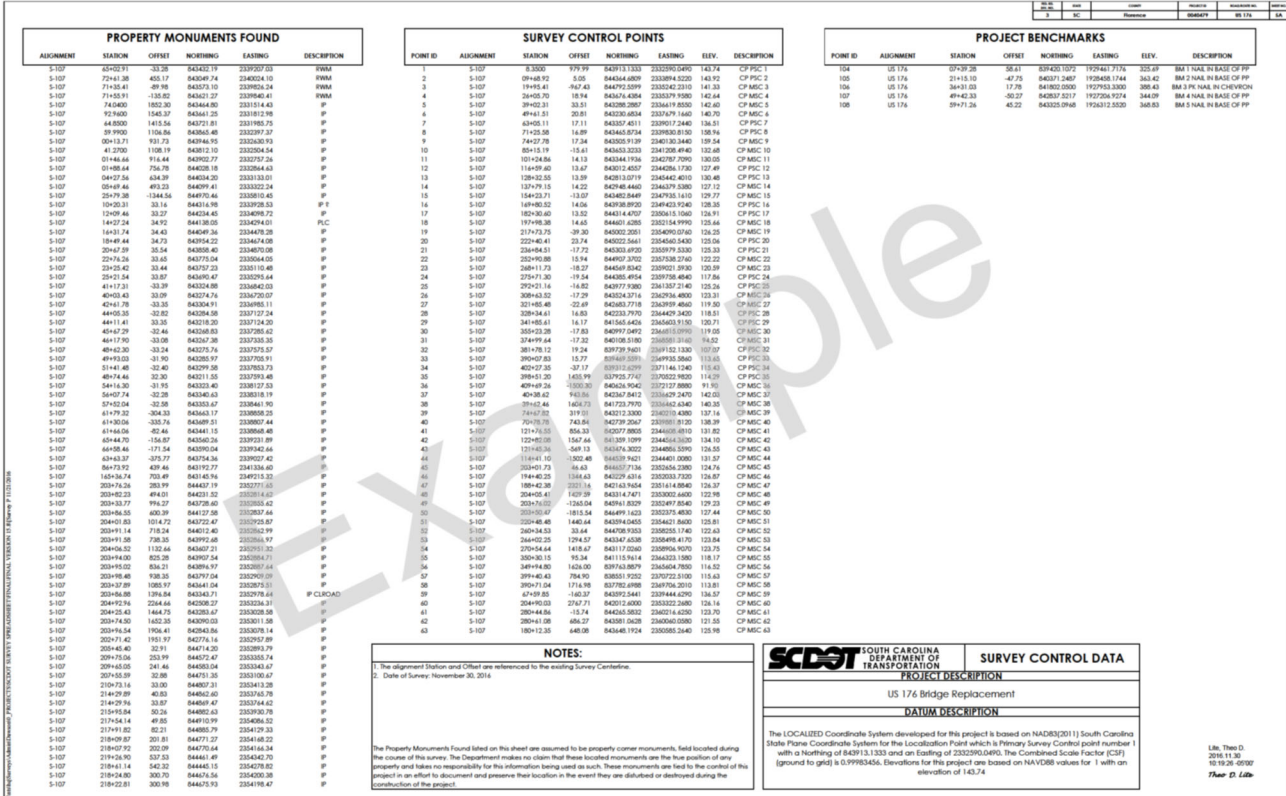

Figure 6
The auto import or alternate manual copy paste listed in step 2 above will automatically place the data in order on these (4) sheets (Figure 6).
If sheets *SCDS 5A, SCDS 5B, SCDS 5C and SCDS 5D* do not appear formatted as shown in (Figure 6), see page 10 (Step 5) for page setup instructions.